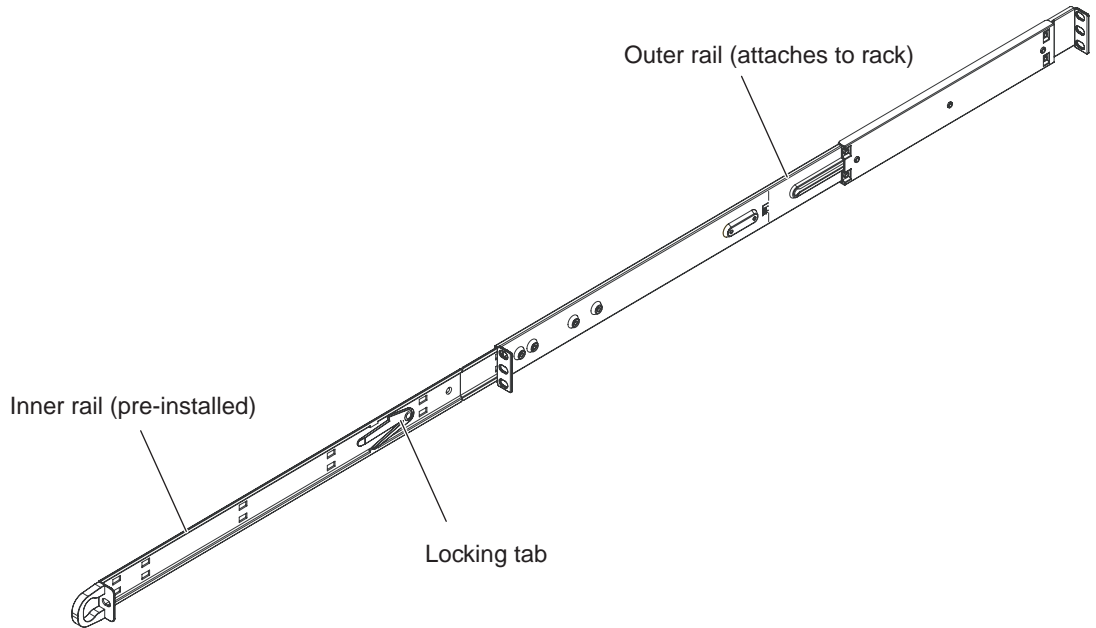

Figure 2-1 Identify Sections of the Rack Rails (right side rail shown)
You should have received two rack rail assemblies in the rack mounting kit. Each assembly consists of two sections: an inner fixed chassis rail that secures directly to the server chassis and an outer fixed rack rail that secures directly to the rack itself (refer to Figure 2-1). Two pairs of short brackets to be used on the front side of the outer rails are also included.
1. If the left and right side inner rails (refer to Figure 2-1) have not been pre-attached to the chassis, attach them.
Both chassis rails have a locking tab (refer to Figure 2-1), which serves two functions: the first is to lock the server into place when it is installed in the rack; the second is to lock the server in place when it is fully extended from the rack. The locking tab prevents the server from being removed from the rack accidentally when you pull it out for service.